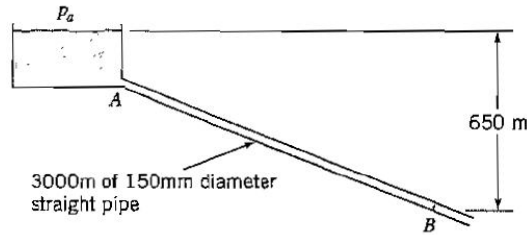

Figure P8.15
8.15 Figure P8.15 shows a pipeline through which water flows at a rate of $0.07\text{ m}^3/\text{s}$. If the friction factor for the pipe is 0.04, and the loss coefficient for the pipe entrance at point A is 1.0, calculate the pressure at point B.